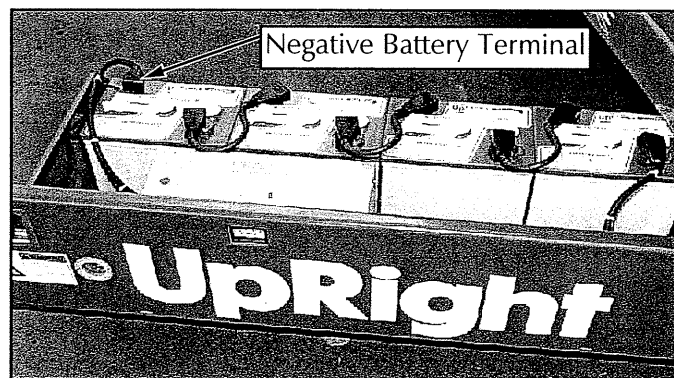

Figure 2-1: Chassis Module, Right Side
4. Connect the negative battery lead terminal (Figure 2-1).
2. Disconnect the battery negative (-) lead from the battery terminal (Figure 2-1).